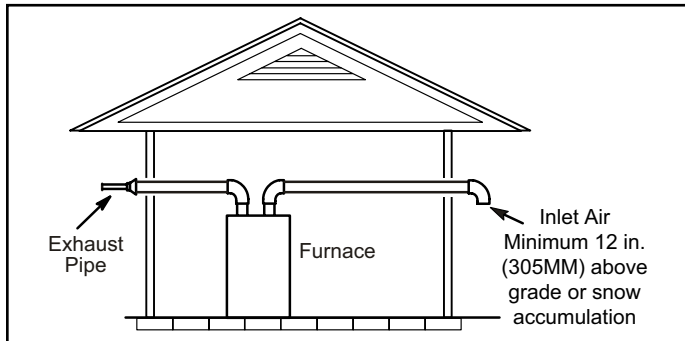
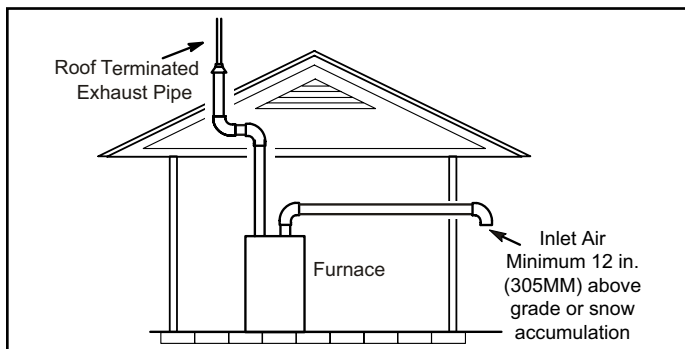

Figure 27. Exiting Exhaust and Intake Vent (no common pressure zone)
Figure 28. Exiting Exhaust and Intake Vent (no common pressure zone)
NOTE - If insulation is required in an unconditioned space, it must be located on the pipe closest to the furnace. See Figure 27.
Intake and exhaust pipes may be routed either horizontally through an outside wall or vertically through the roof. In attic or closet installations, vertical termination through the roof is preferred. Figure 27 through Figure 38 show typical terminations.
1. Intake and exhaust terminations are not required to be in the same pressure zone. You may exit the intake on one side of the structure and the exhaust on another side (Figure 27). You may exit the exhaust out the roof and the intake out the side of the structure (Figure 28).